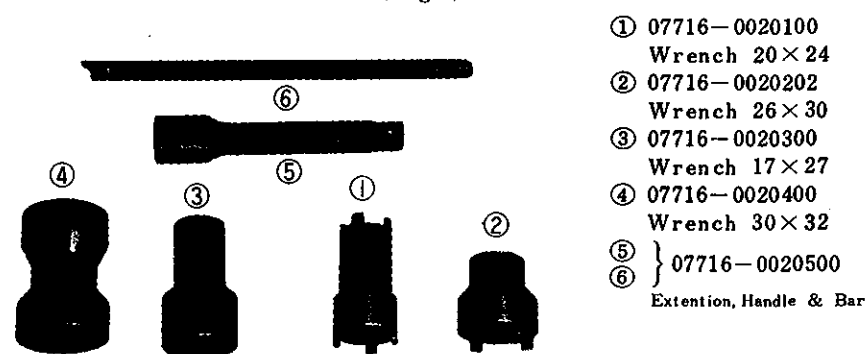
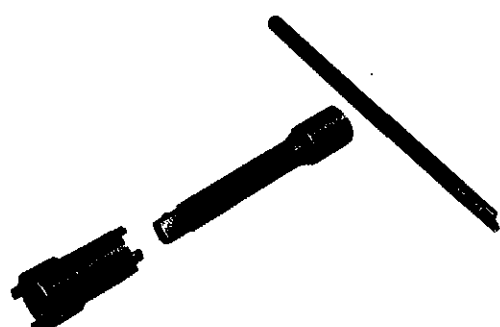
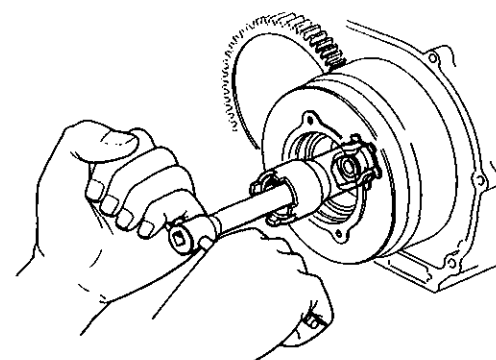
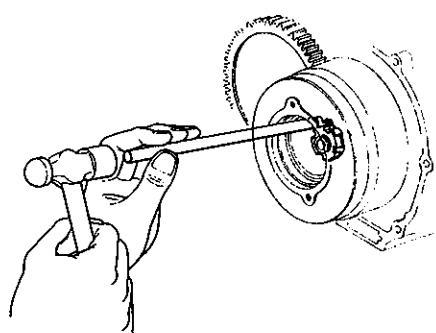

Fig.1
Fig.2
Fig.3
Fig.4
This tool is for loosening or tightening the lock nut when disassembling or reassembling the clutch. (Fig.1)
- ① Fit extension and handle (Fig.1-⑤⑥) to the wrench (Fig.1-①②③④) of the correct size matching the shape and size of the lock nut. (Fig.2) Next, fit wrench onto lock nut and turn the handle to tighten or loosen the lock nut. (Fig.3)
- ② To raise or bend the lock washer serrations, use end portion of the handle (Fig.1-⑥) and gradually lift up all of the serrations. (Fig.4) When assembling, always ensure that all of the lock washer serrations are bent before tightening the lock nut.